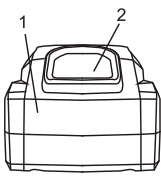
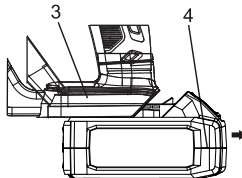

Fig. 1
Fig. 2
1. Remove the discharged battery pack (1) from the tool by pressing the battery release button (2) on the rear of the battery downward (Fig. 1) and pulling the battery pack out of the tool handle (3) (Fig. 2).